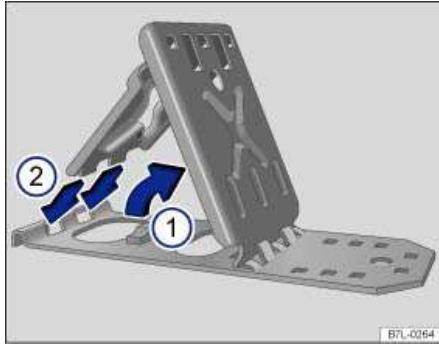

Fig. 335 Setting up folding chock.
- Raise the support plate ⇒ fig. 335 \(1\).